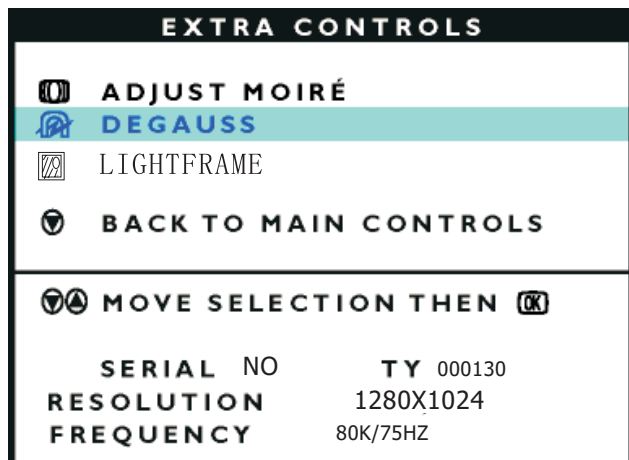

Fig. 23
- 2). [Push " - " & " + " buttons at the same time and hold it ] + [Press power " ⏻ " button untill comes out "Windows screen"] => then release all button, then press , wait until the OSD menu (below OSD menu) come on the Screen of the monitor (see Fig. 23).